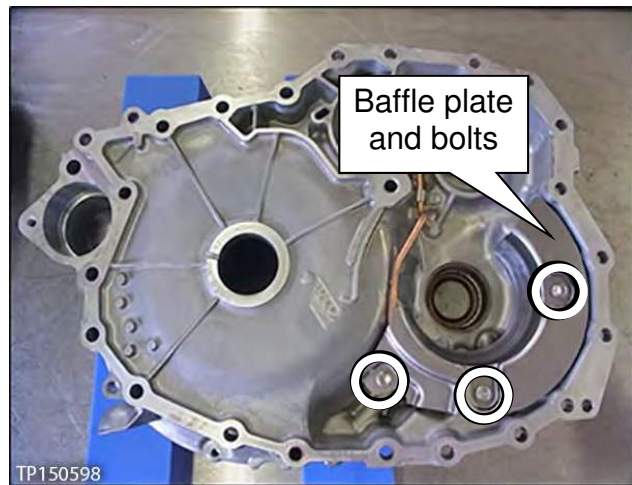

Figure 134
- a. Remove the three bolts, and then remove the baffle plate from the converter housing (Figure 134).